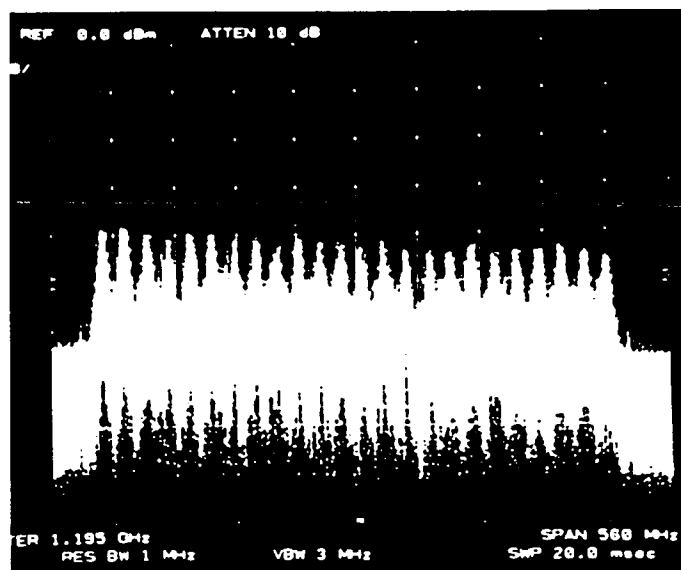
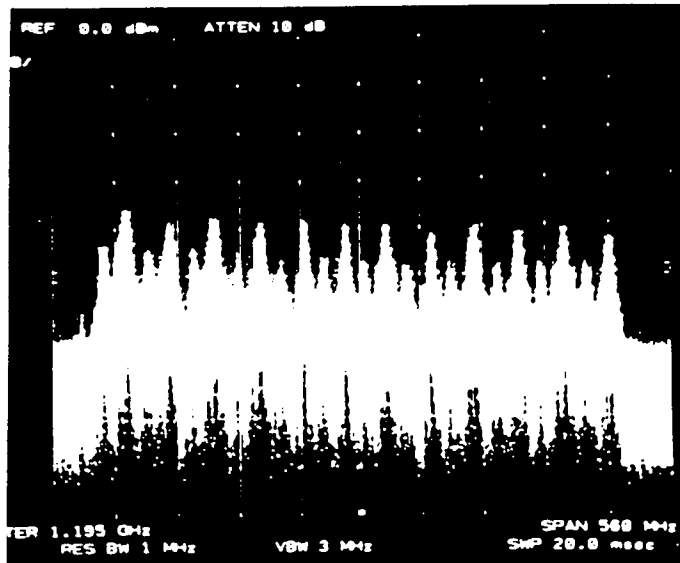

Figure 4. Polarization at 45° from Optimum Setting
Figure 5. Maximizing Odd Transponders
REFER TO FIGURE 5. USE THE SUBREFLECTOR SETTING ROD (ITEM 15) WHICH IS A 3/8" DIAMETER x 59.8" LONG ALUMINUM ROD TO SET INDICATED DIMENSION BETWEEN INNERMOST REFLECTOR PANEL SEAM HARDWARE AND SUBREFLECTOR APERTURE RIM AT THE THREE SUBREFLECTOR ADJUSTMENT STUD POSITIONS. USE SUBREFLECTOR ADJUSTMENT HARDWARE (REFER TO FIGURE 3) TO ACHIEVE EQUAL AXIAL DIMENSIONING AT ALL THREE LOCATIONS. SECURELY TIGHTEN THE ADJUSTMENT HARDWARE.
2.8 Rotate the feed assembly clockwise until 24 transponder signals are noted and of approximately equal amplitude as shown in Figure 4. Note: It is more accurate and visually easier to minimize the alternate set of transponder signals rather than maximizing the transponder set of interest.
2.9 With all 24 transponder signals of approximately equal amplitude appearing on the spectrum analyzer screen as shown in Figure 4 determine the specific antenna system and satellite parameters noted in paragraph 2.8. Rotate the feed assembly as required until the appropriate (odd or even) transponder signals are maximized. Figure 5 illustrates partial minimizing of the alternate transponder signals.